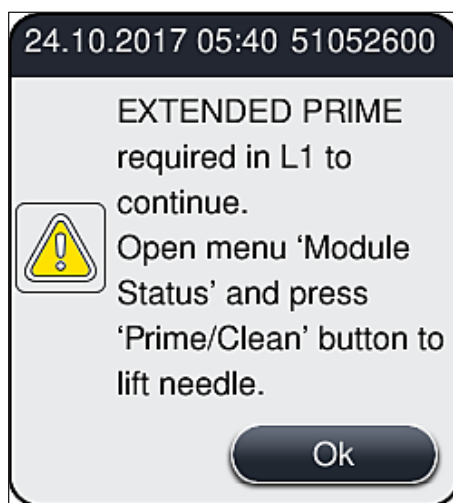

Fig. 100
2. Take note of the information message that follows (→ Fig. 100) and acknowledge with the **Ok** button.